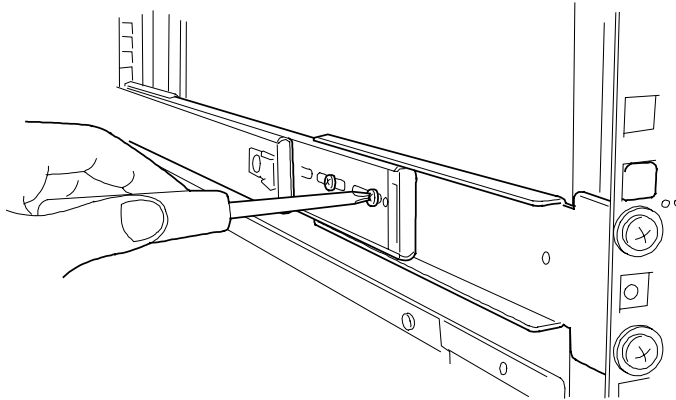

Figure 2-8. Tightening the Slide Rail
7. Firmly secure the rail bracket to the slide rail and the rack. See Figure 2-8.